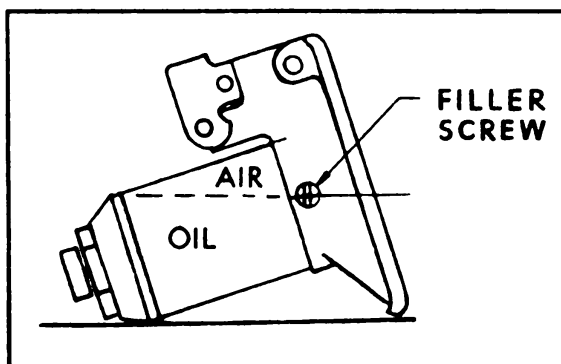

FIGURE 66. JACK-TILTED
3. **OIL.**—*a.* In case of jack failure, first determine whether or not oil level is up to filler screw hole (Figure 66). To do this lower ram and tilt jack.